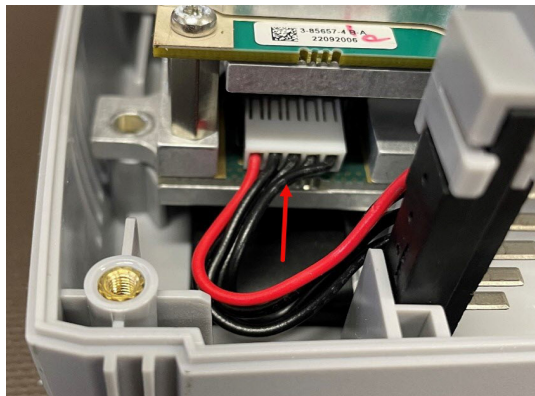

Figure 3-9. Battery Cable Removal
6. Disconnect the battery cable and remove the battery shroud. See Figure 3-9.